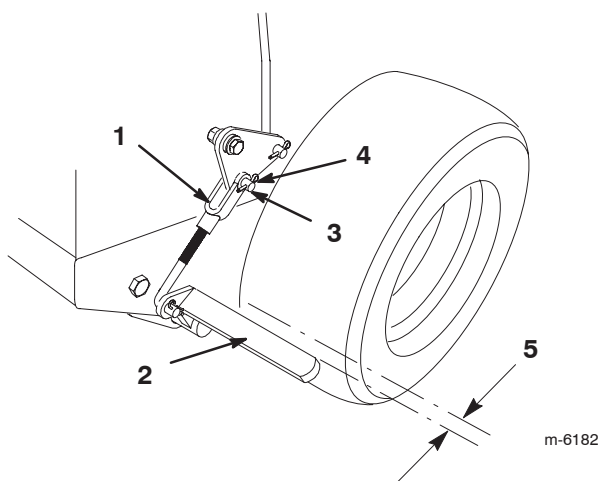

Figure 42
3. Remove the hair pin cotter and the clevis pin from the lower brake lever (Fig. 42).
4. Rotate the brake linkage yoke in to tighten the parking brake; rotate the brake linkage yoke out to loosen the parking brake (Fig. 42).
Note: There should be an approximately 1/4 in. clearance between the tire and the flat bar when the parking brake is in the released position (Fig. 42).
5. Secure the brake linkage yoke to the lower brake lever with the hair pin cotter and the clevis pin (Fig. 42).